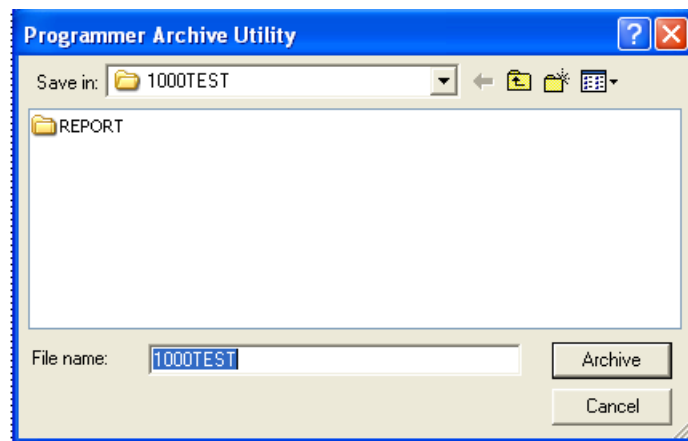

Figure 3-10. Archive Dialog
2. Click on the **File** menu and select the **Archive** option. A dialog similar to Figure 3-10 appears.